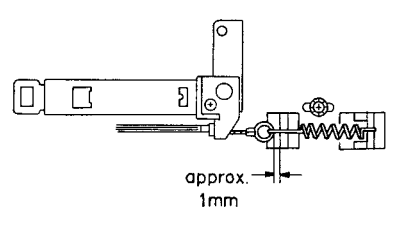

Fig. 4.18
- (3) Set the N-480Z in Record and Pause mode. Check to insure that the gap between the top of the wire and the Record Spring Holder is approx. 1 mm as shown in Fig. 4.18. (Check that the Record Switch is in record position.)
- (4) Upon completion of the above adjustments, apply a quantity of lock tight paint.